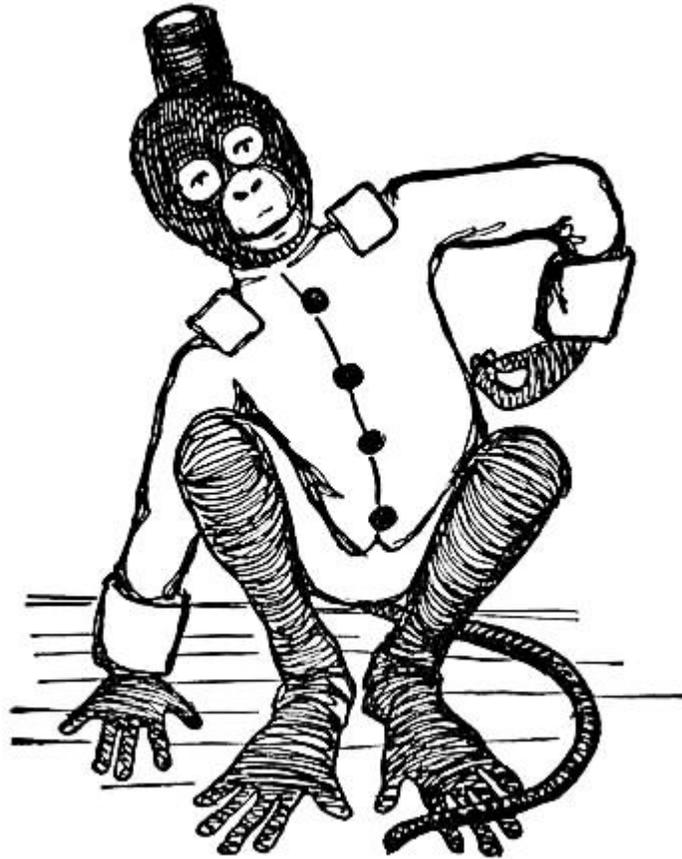
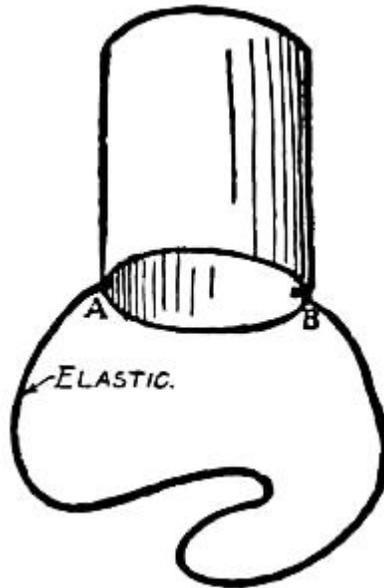

FIG. 283.—"Jocko."
FIG. 284.—Jocko's Hat.
**A Monkey's Make-up** is shown in Fig. 283. The boy who is most apt at making a monkey of himself should be selected to take the part of this animal. In the first place he requires a red suit, which may be made quickly by sewing red cloth over an old coat and a pair of trousers. Cover the legs with a pair of tan stockings, and slip the feet into a pair of large gloves. The face and hands should be colored, and for this purpose buy some brown grease paint. In rubbing the paint over the face, leave a circle of white around the eyes and mouth, and make a brown mark each side of the mouth to give it a broadened effect. A tight-fitting cap should be made of cloth as nearly the shade of the brown paint as possible, to hide the hair. Figure 284 shows the monkey's hat, consisting of a tomato-can covered with red cloth, which is fastened around the monkey's chin by means of an elastic cord. A piece of rope can be fastened beneath the coat for a tail.